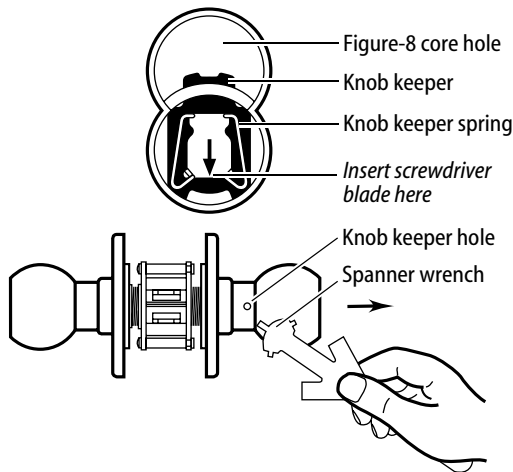

Figure 4 Removing inside knob and trim
- 1 Insert the spanner wrench tip into the knob keeper hole and depress the keeper. (See Figure 4.)
- 2 Insert a screwdriver into the figure-8 core hole and into the keeper. (See Figure 4, top.)